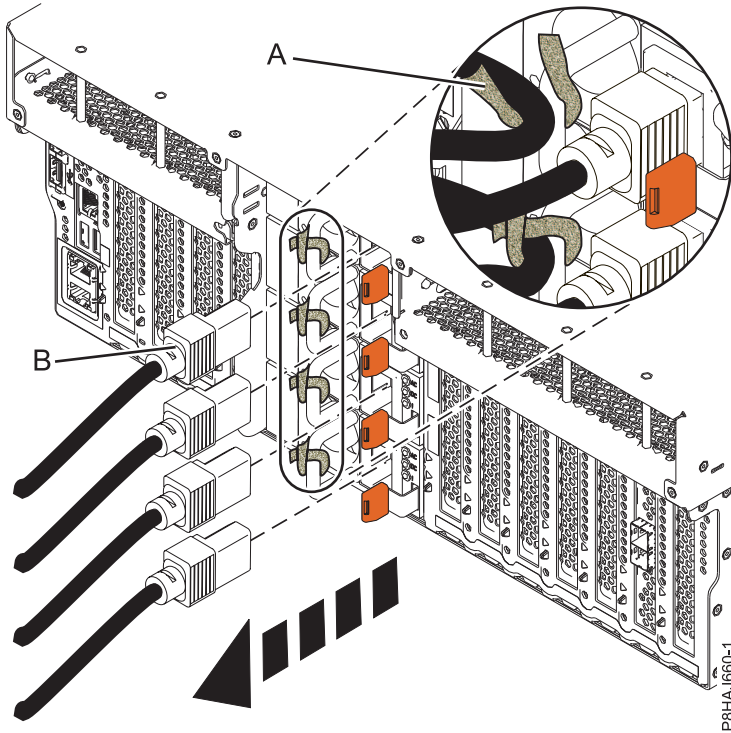
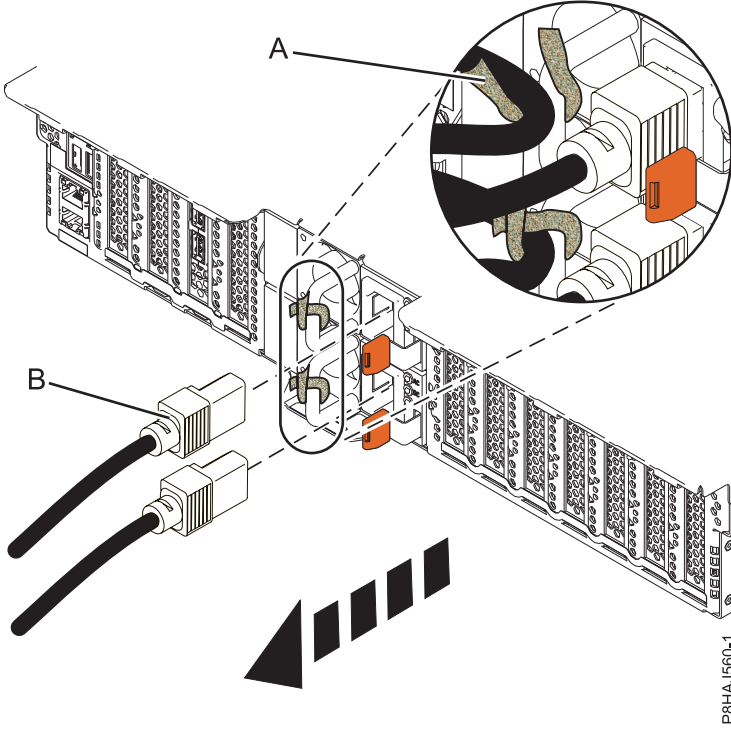
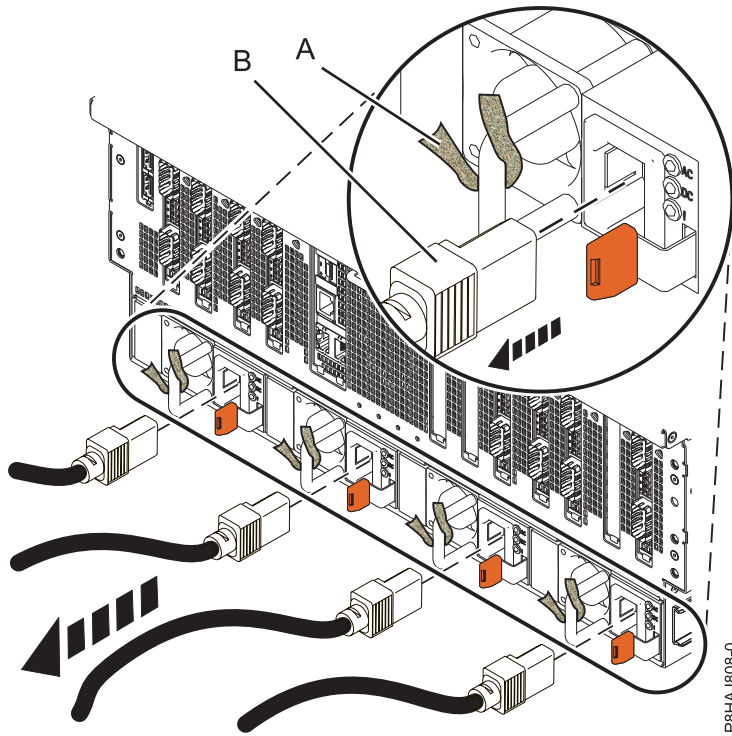

Figure 77. Removing the power cords from an 8247-42L, 8286-41A, or 8286-42A system
Figure 78. Removing the power cords from an 5148-21L, 5148-22L, 8247-21L, 8247-22L, 8284-21A, or 8284-22A system
Figure 79. Removing the power cords from an 8408-44E or 8408-E8E system
3. Disconnect the power cords (B) from the system unit. See Figure 77 on page 86, Figure 78 on page 86, or Figure 79 on page 87 or depending on the type of your system.